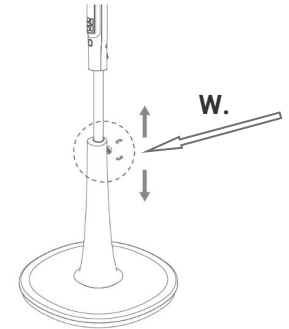

FIG.15
22. Height Adjustment Screw (Fig.15)
- Loosen the height adjustment screw (22) at the back of the lower pedestal and extend the inner pole (20) to the full extension.
- Loosen the large screw at the back of the upper pedestal (16) and place over the inner pole (20) with the power cord (26) to the rear.
- Tighten the fixing screw (21) firmly with a screwdriver to secure the join.
- See Fig.15 on Page 8 for height adjustment information.
- Remove the blade cap (5) by turning clockwise and remove the clamping nut (7) by turning anticlockwise.
- Install the rear grille (8) by positioning onto the three pins on the front motor cover (10).
- Secure the clamping nut (7) in place by turning it clockwise.